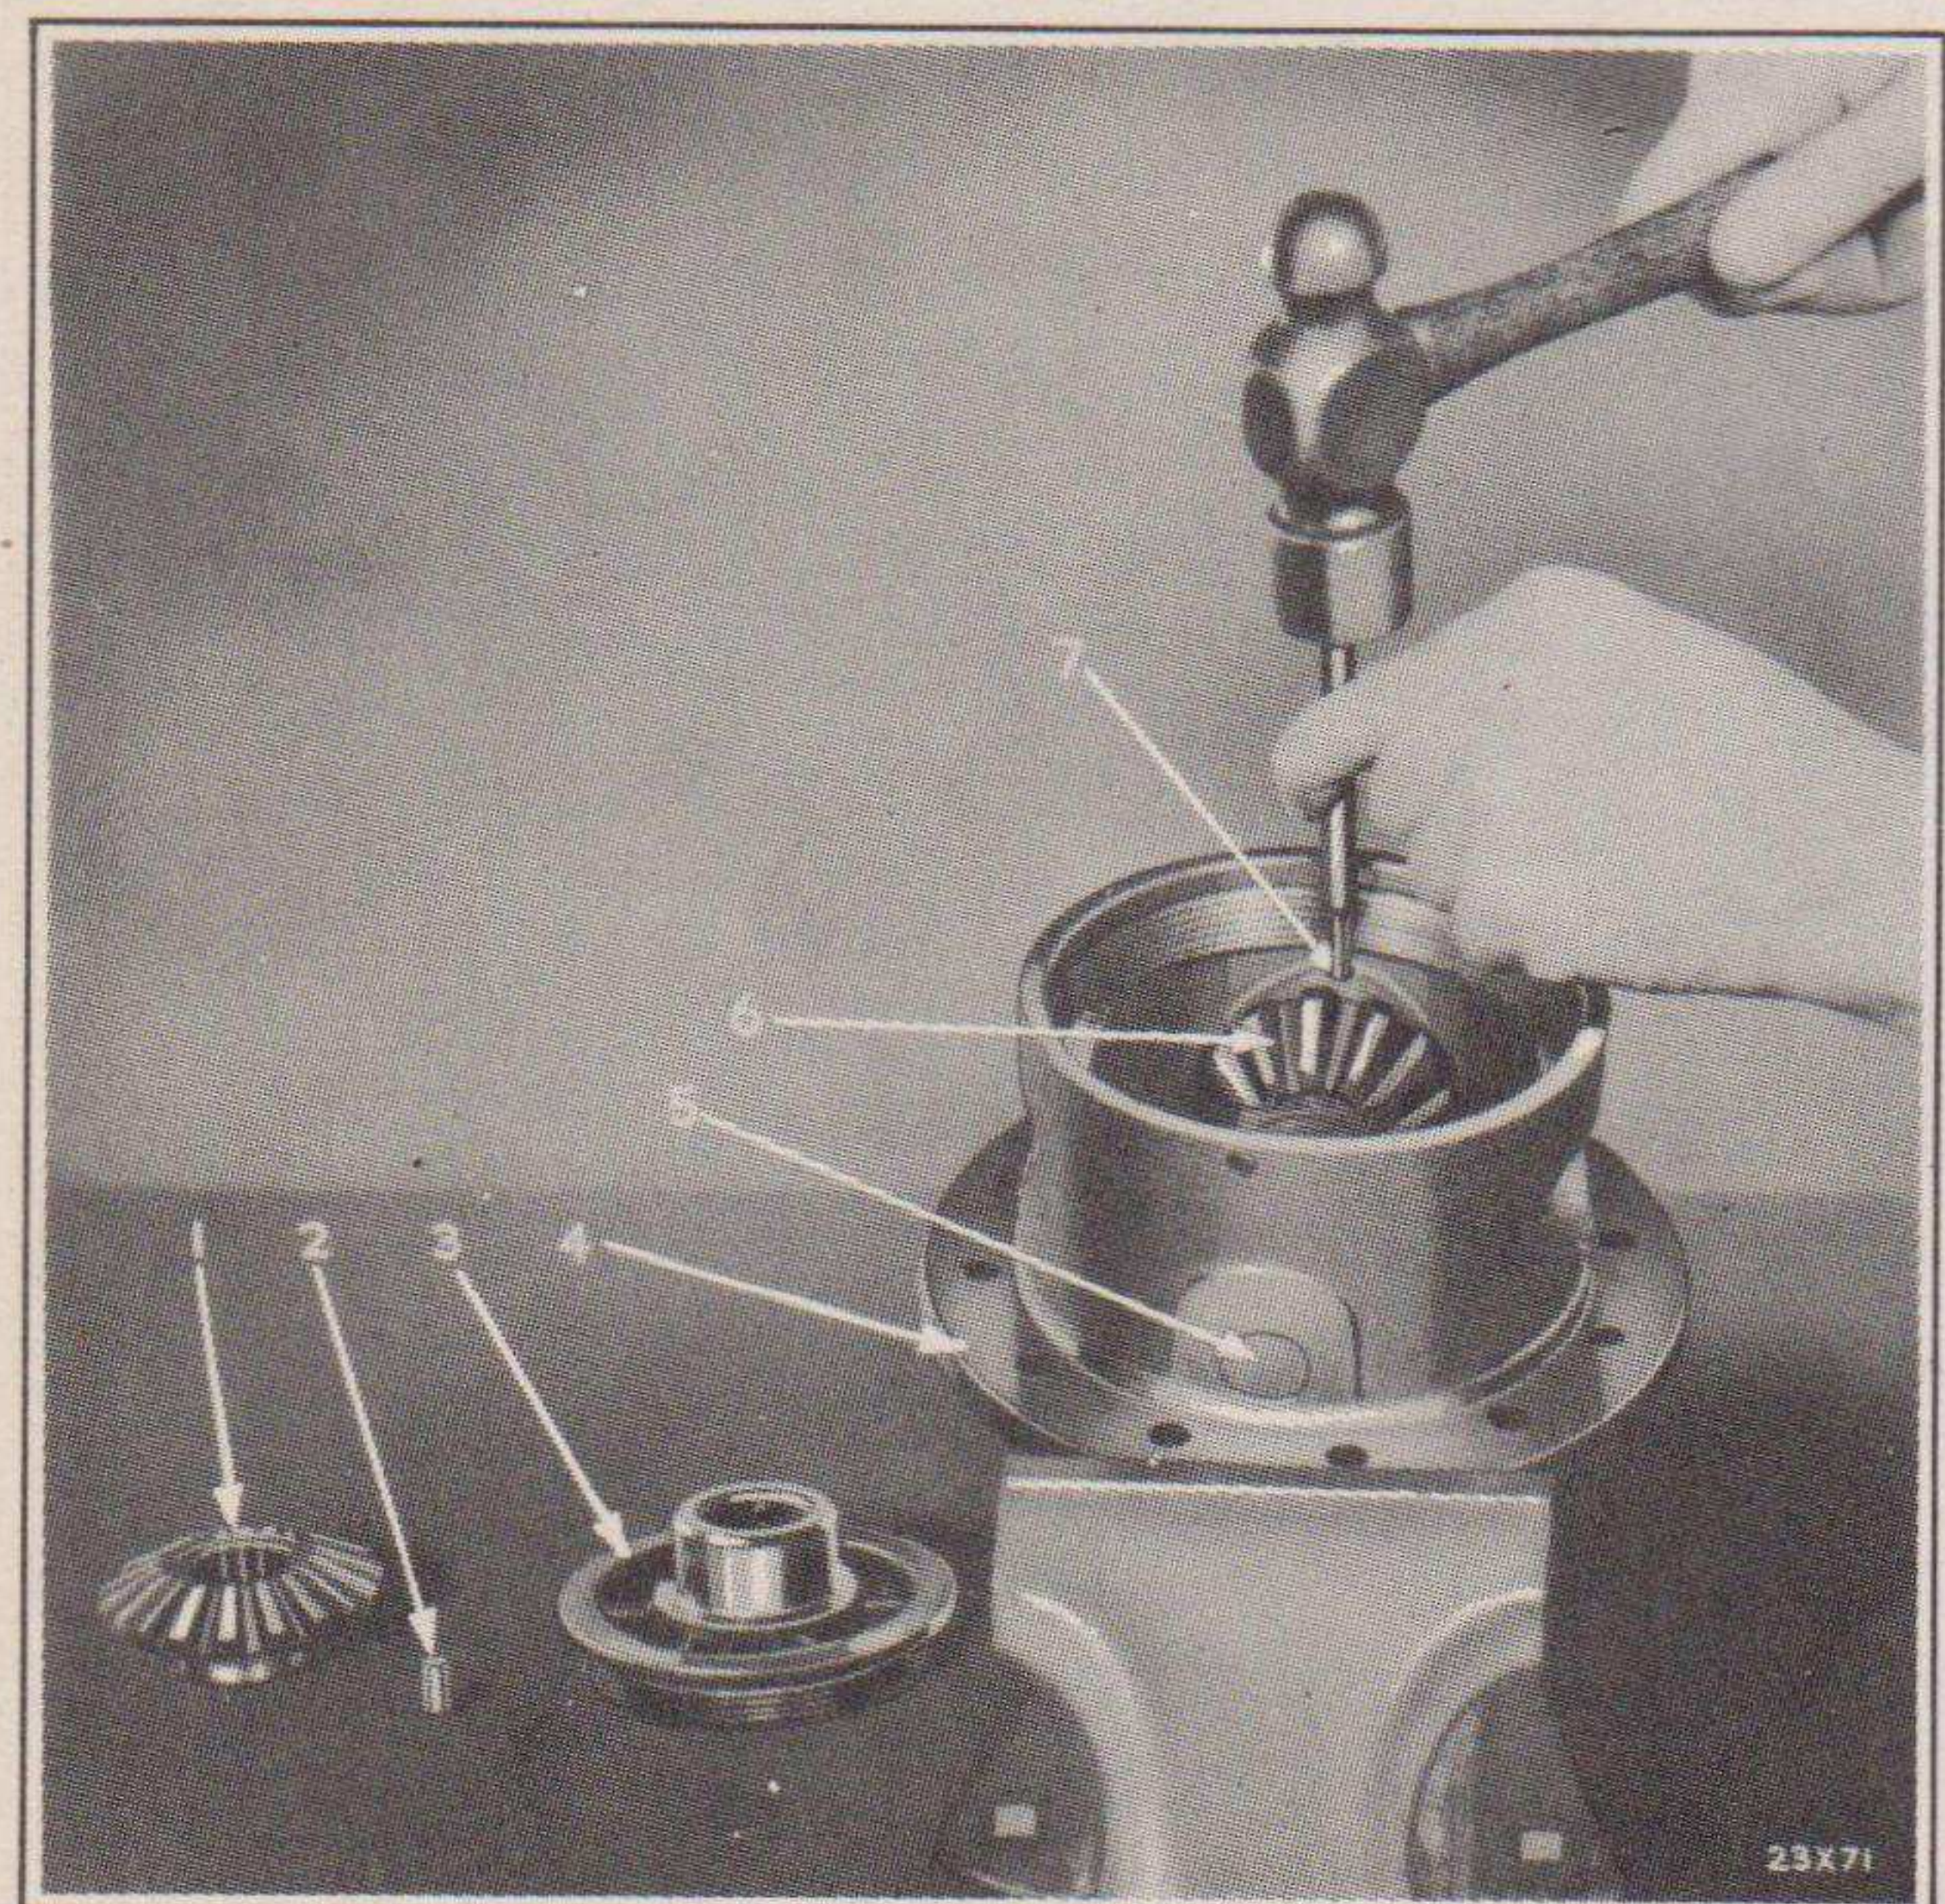

Fig. 54—Removing Differential Pinion Shaft Lock Pin
- (f) Remove the differential pinion shaft lock pin by driving it out of the case with a hammer and punch. See Fig. 54.